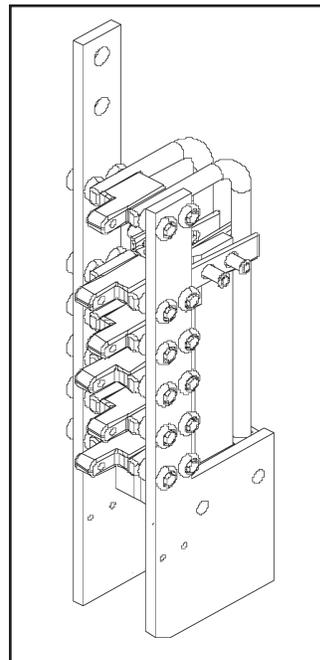

Figure 8. No Shield
1. Unshielded decks are typically used for applications that have an impulse voltage withstand requirement of 250 kV or less (Figure 8).